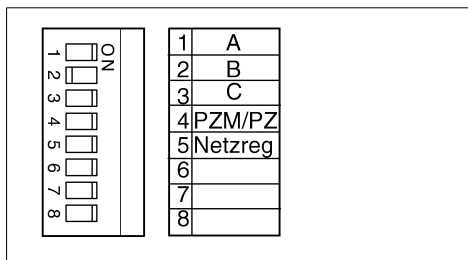

Fig. 5 : DIP switch
The hardness range of the mains water must be set at the electronic control using the DIP switch (26). Open the contact assigned to the hardness range (push into the position opposite to "ON" (see fig. 5)).